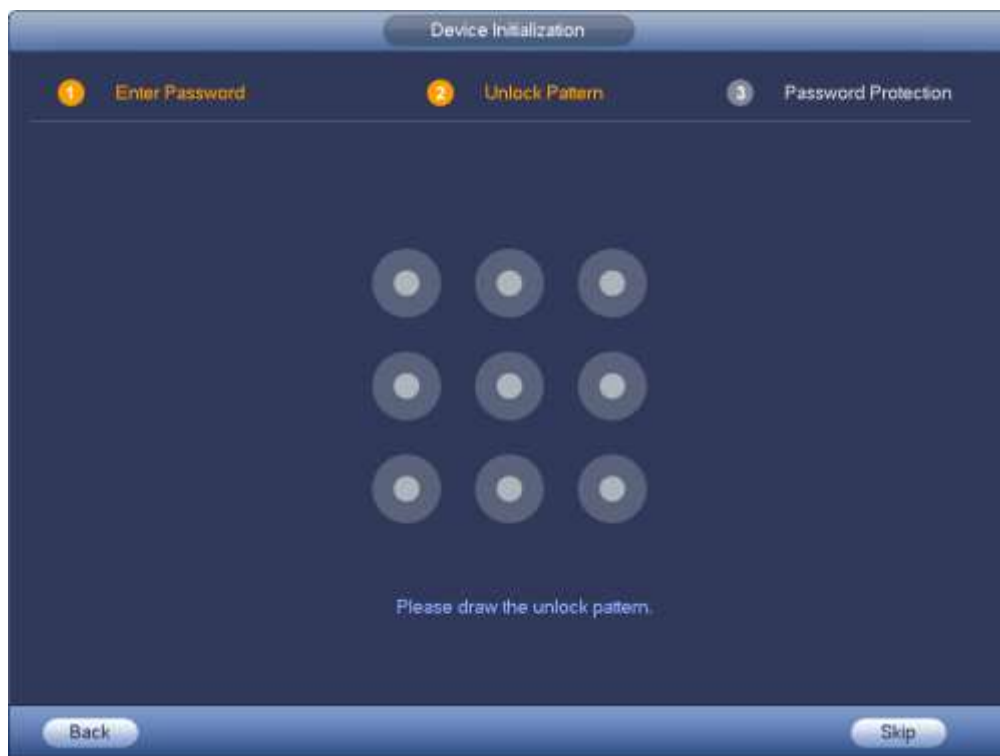

Figure 4-2
Step 5 Click Next, device goes to the following interface. See Figure 4-2.